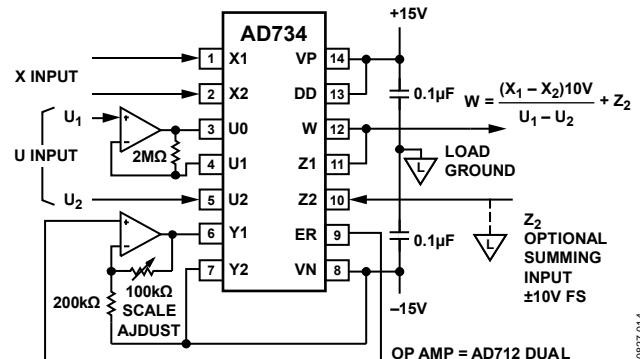

Figure 31. Two-Quadrant Divider with Fixed 10 V Scaling
in Figure 31, where a fixed numerator of 10 V is generated for a divider application.  $Y_2$  is tied to  $V_N$ , but  $Y_1$  is 10 V above this; therefore, the common-mode voltage at this interface is still 5 V above  $V_N$ , which satisfies the internal biasing requirements (see Table 1).
Where a numerator of 10 V is needed, to implement a two-quadrant divider with fixed scaling, the connections shown in Figure 31 can be used. The reference voltage output appearing between Pin 9 (ER) and Pin 8 (VN) is amplified and buffered by the second op amp, to impose 10 V across the Y1/Y2 input.